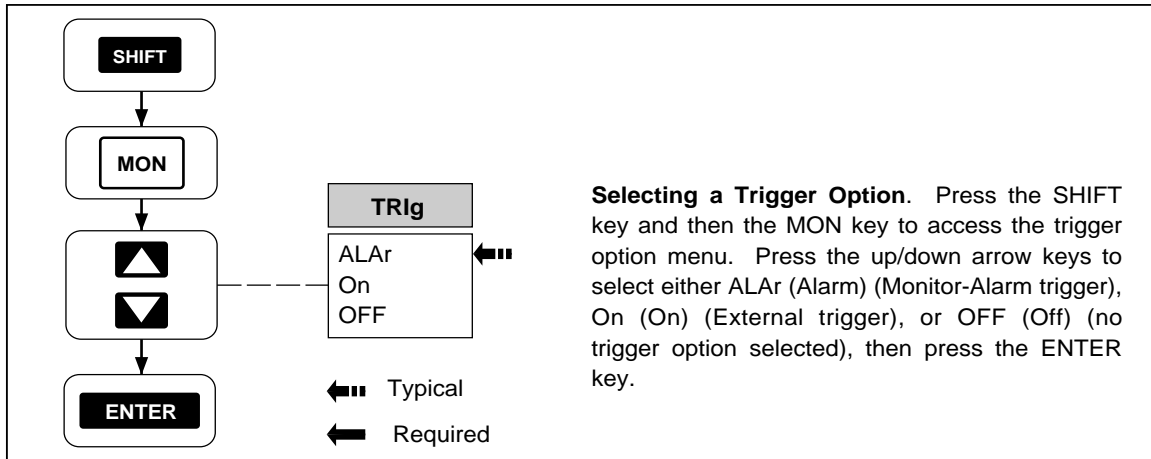

Figure 2-19. Scan Triggering Options
An alarm condition, coupled with the Monitor Mode, can be used to start and stop measurement scans (see Figure 2-19). When an alarm occurs, scanning begins, and when the alarm clears, scanning stops.
Perform the procedure in Figure 2-17 to start and stop the Monitor Mode of operation. The Monitor Mode can be started when the instrument is in the inactive mode or in the Scan Mode. The Monitor Mode commands the instrument to display the present measurement for any selected channel (except channels set to OFF) and to display alarm information if the channel is in alarm. If the Monitor Mode is used without the Scan Mode, the instrument operates like a multimeter. If the Monitor Mode is used with the Scan Mode, the instrument also operates like a multimeter but measurements can be recorded into memory, printed out, and reviewed (maximum, minimum, last values). The Monitor-Alarm triggering option uses the Monitor Mode to start or stop scans when a selected channel goes into or out of alarm (see Figure 2-19). If the instrument is in the Monitor Mode and scanning using the memory card, any illegal memory card operations are noted only with a double "beep." When you hear a double beep, exit the Monitor Mode and investigate the memory card error (see Figure 2-16).
- Scan Triggering Options (Figure 2-19)
Perform the procedure in Figure 2-19 to select a triggering option, which can be applied when the instrument is in the inactive mode (not scanning or monitoring). Normally, a scan is started by pressing the **SCAN** key, but two options can be selected to start a scan from either an external trigger input or from a monitor-alarm condition. The **SCAN** key overrides a triggering option.